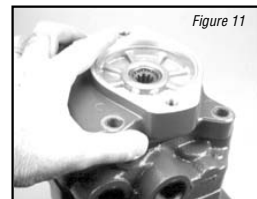

Figure 11
- 10** With the cap screws removed, remove the charge pump adaptor assembly from the backplate (see Figure 11).